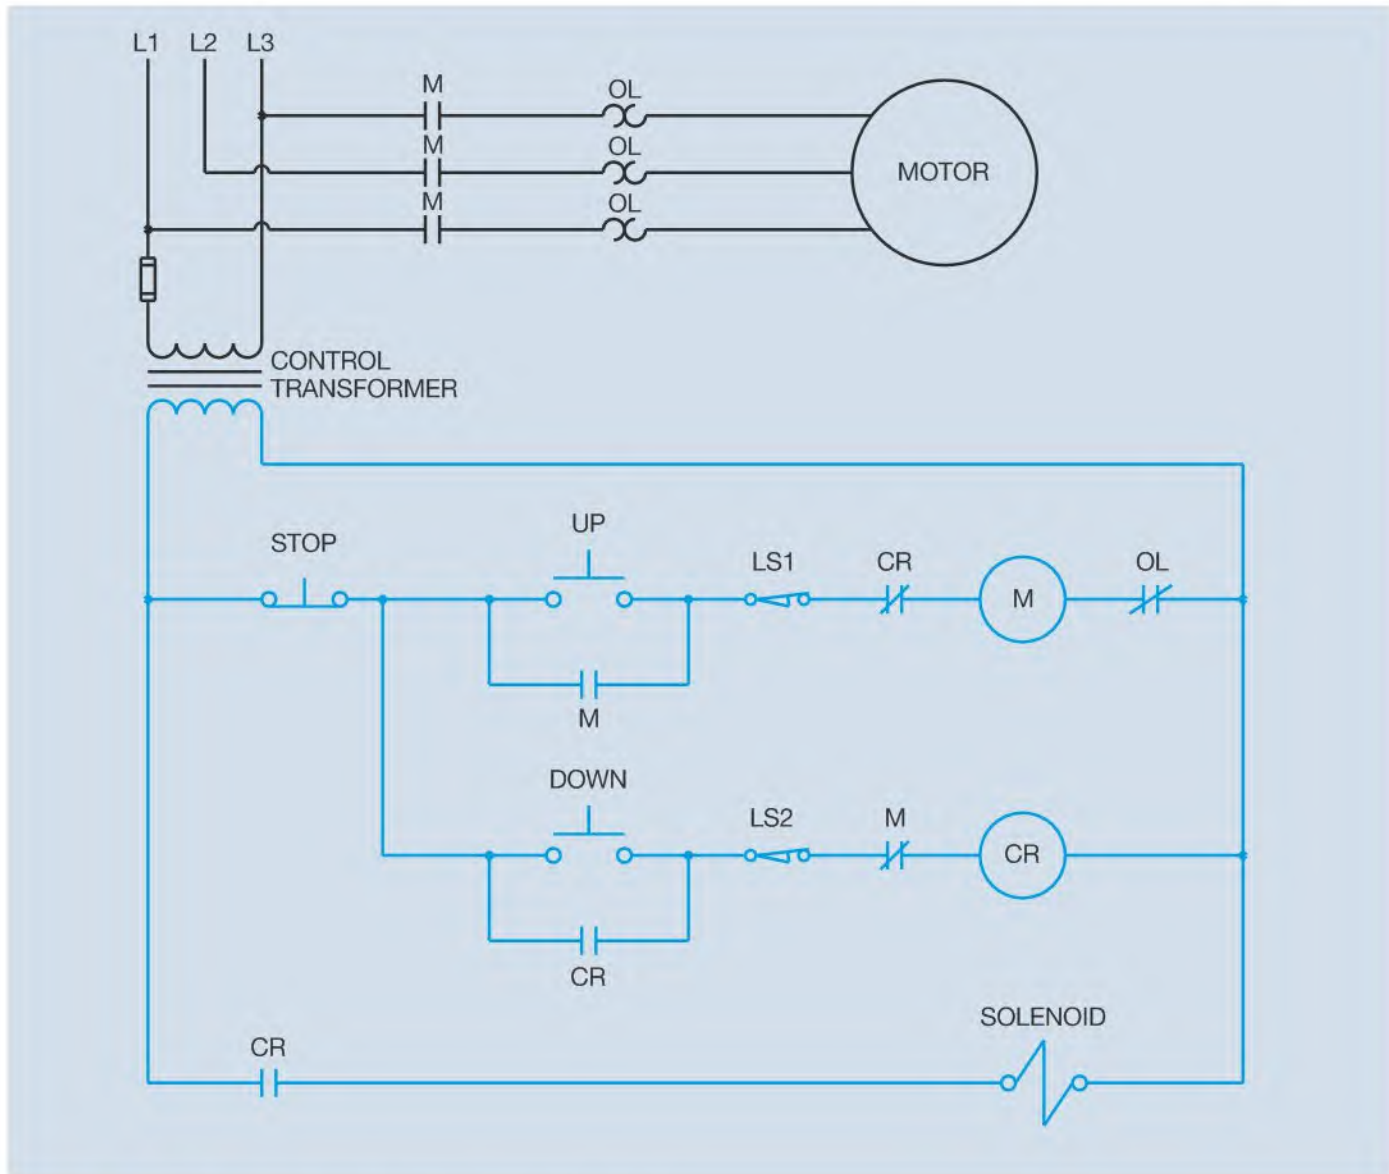

Figure 16-11 Control circuit to raise and lower platform.
The schematic for this control circuit is shown in Figure 16-11. The schematic shows both limit switches to be normally closed. When the platform is at the extent of travel in one direction, however, one of the limit switches will be open. If the platform is at the bottom floor, limit switch LS2 will be open. If the UP push button is pressed, a circuit will be completed to M starter causing the motor to start raising the platform. The M normally closed contact will open to prevent CR from
3. Refer to the circuit shown in Figure 16-11. Assume that the platform is located on the bottom floor. When the UP push button is pressed the pump motor does not start. Which of the following could *not* cause this problem?